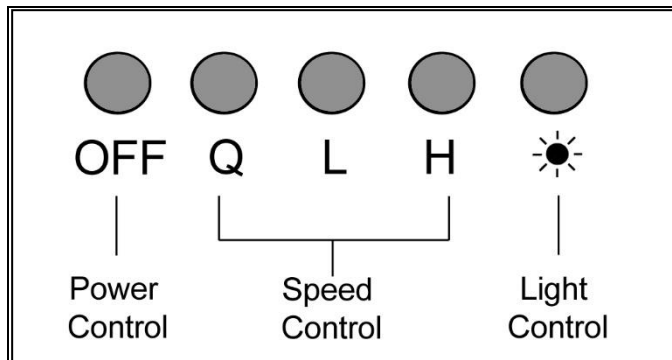

Figure 4
18. Attached the rubber plate and 6" round exhaust vent adapter to the exhaust opening and use 6 4*16 screws to secure it. Refer to Figure 4.